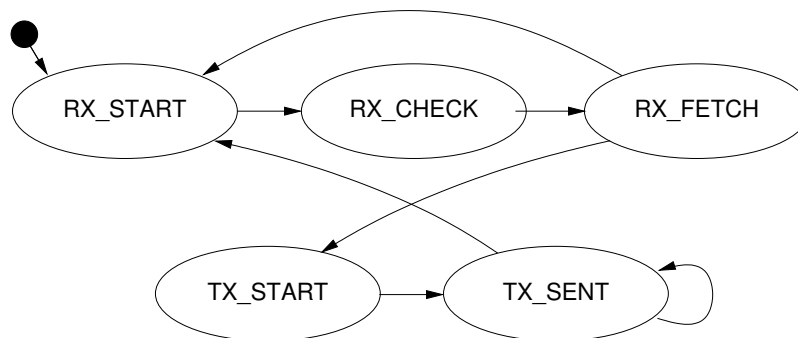

Figure 6.1: Transition Diagram of the EoE State Machine
**EoE State Machine** Every EoE handler owns an EoE state machine, that is used to send frames to the corresponding slave and receive frames from it via the EoE communication primitives. This state machine is shown in Figure 6.1.